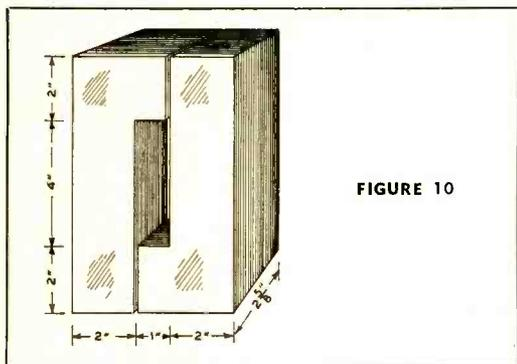

FIGURE 10
A slight advantage in window area can be gained by stacking the core laminae somewhat thicker than their width. By having the core laminae two inches wide and stacking them two and five-eighths inches deep we acquire the necessary 5.25 sq. inches of cross-section. To meet the requirement of $L = 17.8$ inches the core may have the dimensions shown in figure 10. If two air-gaps are to be used as shown, each will be one-half the amount calculated from equation (5), above. Thus the proper air-gap length would be $l_2 = 0.0023 \times 17.8 = 0.041$ in. Each gap is therefore 0.0205 inches and may be filled with paper, mica, etc.